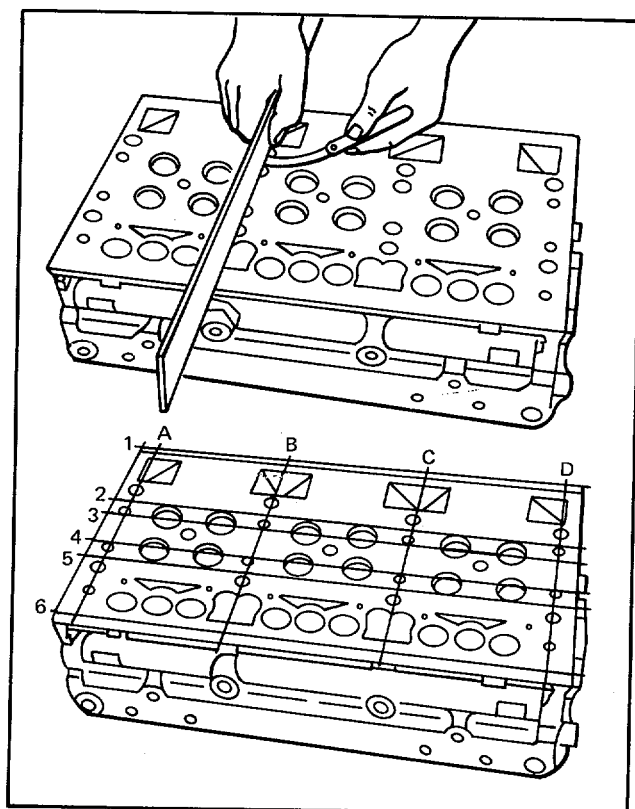

Figure 3. Checking Bottom Face of Cylinder Head for Warpage
- a. Use a heavy, accurate straightedge and feeler gages, tool J 3172, to check for transverse warpage at each end and between all cylinders. Also check for longitudinal warpage in six places as shown in Fig. 3. Refer to Table 1 for maximum allowable warpage.